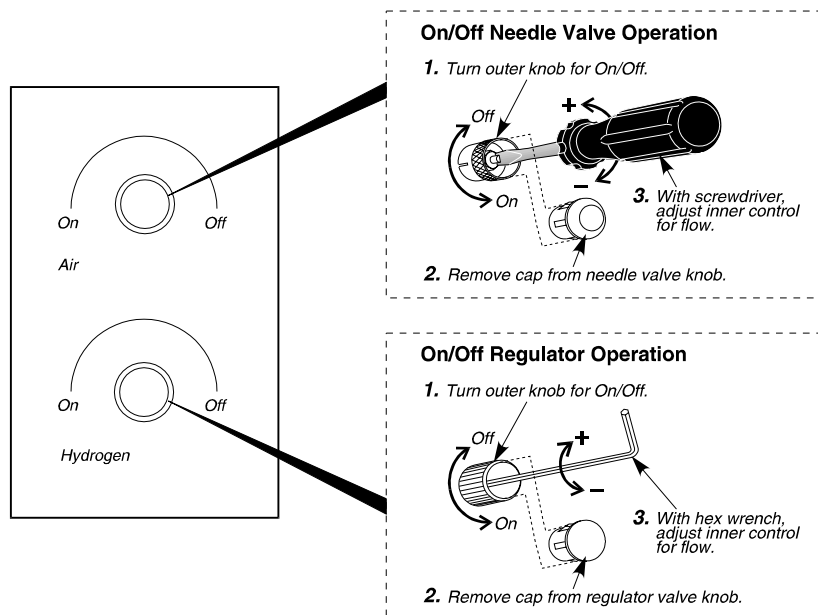

Figure 4-27. Gas Control Valves for the manual pneumatics NPD.
3. Start the air flowing by turning the outer ring of the air control valve fully counterclockwise (see Figure 4-27).